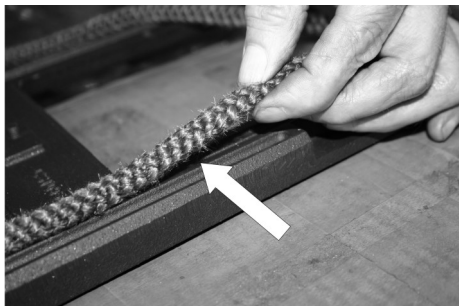

Fig. 5. Rope Replacement
- Press the rope gasket into the channel on the rear of the door casting, following the same layout as the old rope seal. See Fig. 5.
Note: Images fig 5 & 6 for reference only